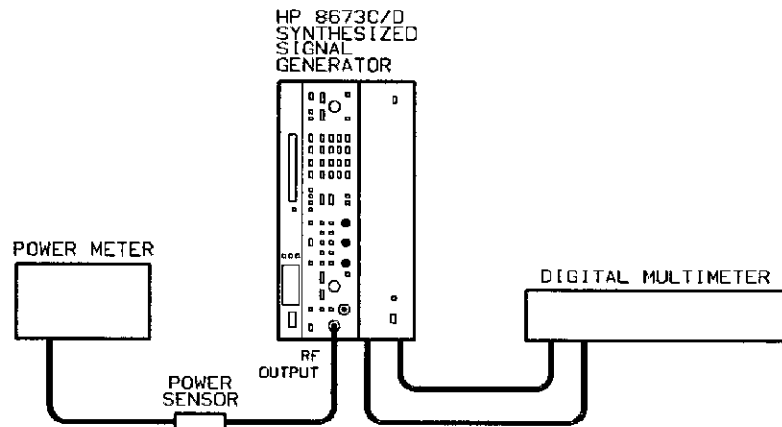

Figure 5-36. Low Band Flatness and ALC Adjustment Setup
1. Place the Signal Generator on its side as shown in figure 5-36.